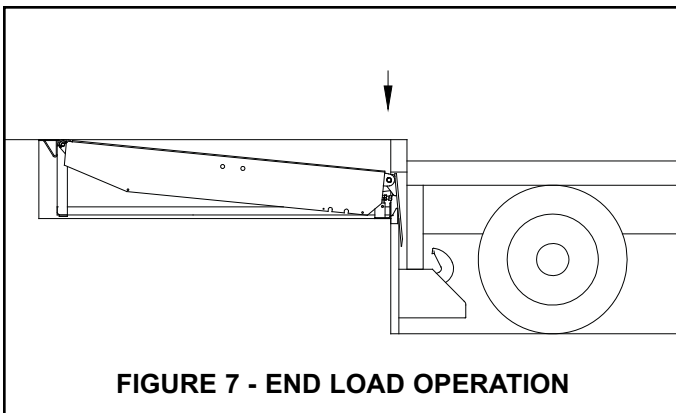

FIGURE 7 - END LOAD OPERATION
2. When lip extends about 2 inches, release RAISE button. The leveler will lower to the below dock position with the lip positioned between the face of the loading dock and the truck/trailer bed. See figure 7.